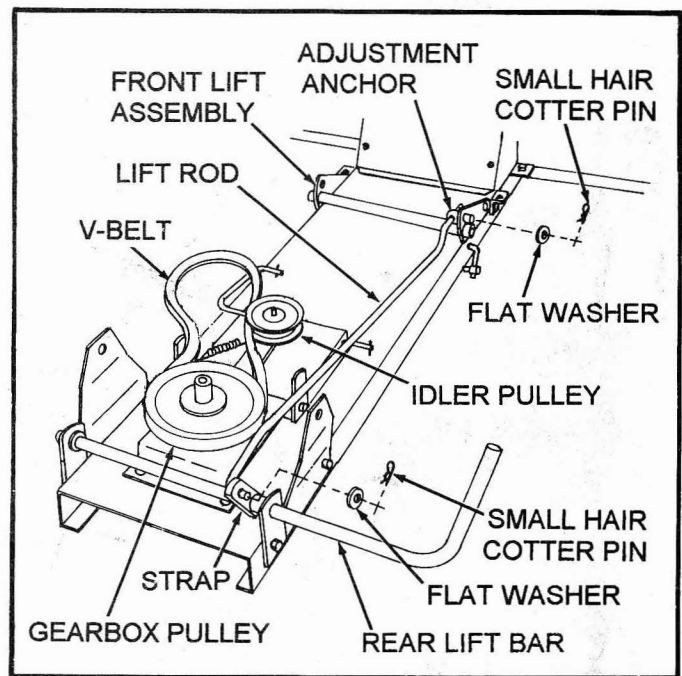

FIG. 14
- Install adjustment anchor of Lift Rod through hole in right end of front lift assembly and secure with flat washer and small hair cotter pin. (See Fig. 14)
- Install V-belt into groove around gearbox pulley and place to left of the spring loaded idler pulley. (See Fig 14)